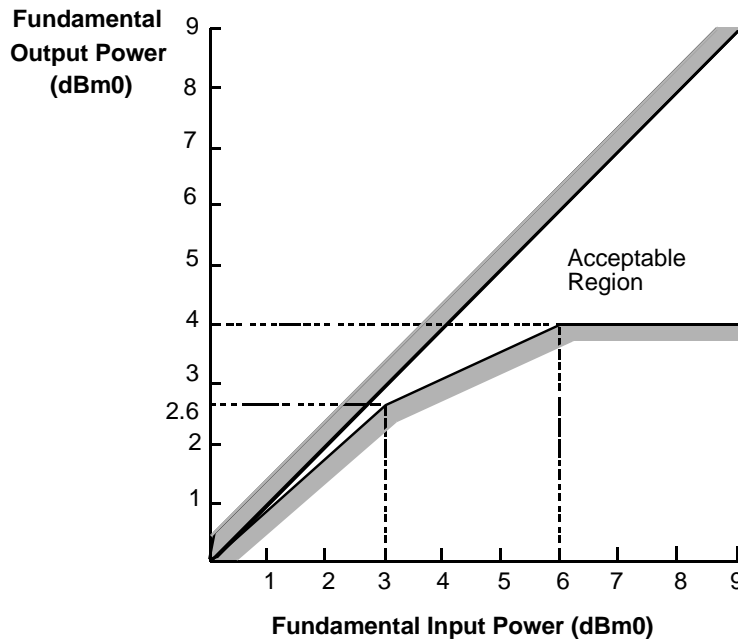

Figure 6. A/A Overload Compression
Figure 6 shows the acceptable region of operation for input signal levels above the reference input power (0 dBm0). The conditions for this figure are: (1) 1 dB < transmit path ≤ +12 dB; (2) -12 dB ≤ receive path < -1 dB; (3) Digital voice output connected to digital voice input; and (4) measurement analog-to-analog.